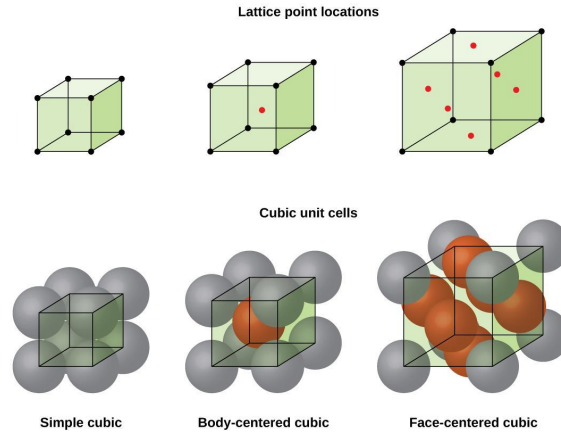

Figure 3. Simple cubic (SC), body-centered cubic (BCC), and face-centered cubic (FCC) diagrams representing locations of their atoms within the lattice [4].
Since we have now discussed the crystal lattice and unit cells, we can dive into more specific crystal systems and lattice shapes. This module will only talk about three of these lattices: the **simple cubic (SC)**, **face-centered cubic (FCC)**, and **body-centered cubic (BCC)**. Figure 3 demonstrates the cubic crystal system of the three types of unit cells. In simple cubic, the atoms or ions are at the corners of the unit cell only. The face-centered cubic has atoms or ions at the corners and also has atoms or ions in the center of each of the faces of the unit cell. For the body-centered cubic unit cell, there is one atom or ion in the center of the unit cell in addition to the corner atoms or ions.